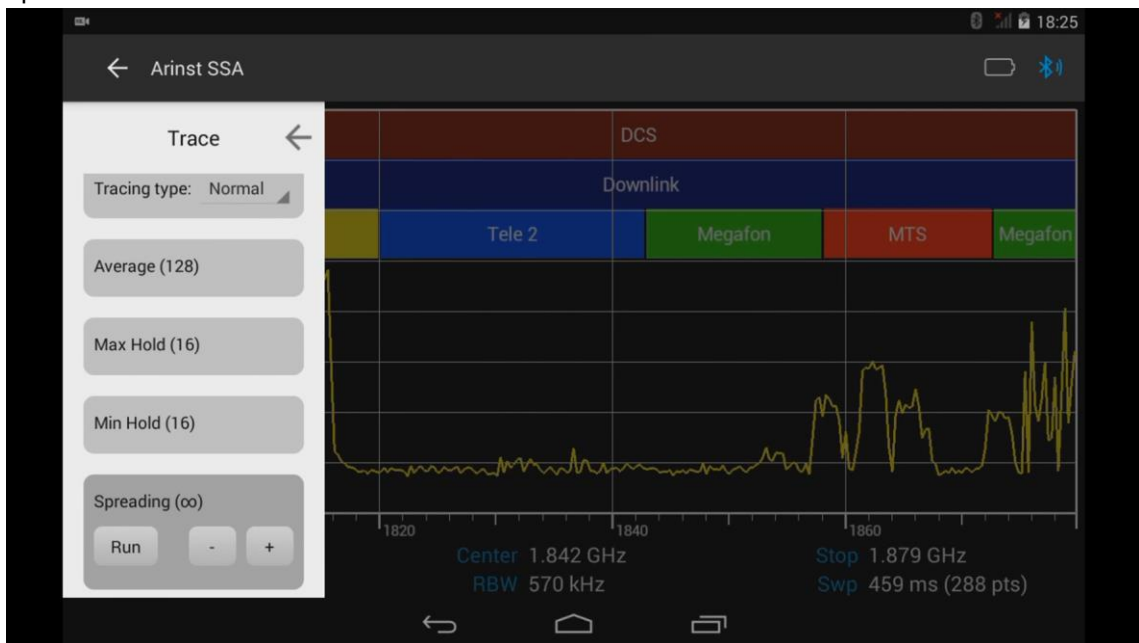

Figure 60 – Setting the number of scans to display maximums and minimums
8.9.9. To display the maximum and minimum results of multiple scans, enter the **Spreading** menu as shown in figure 60. Use the "-" and "+" buttons to set the required number of scans (in the range from 4 to ∞) and press the **Run** button.